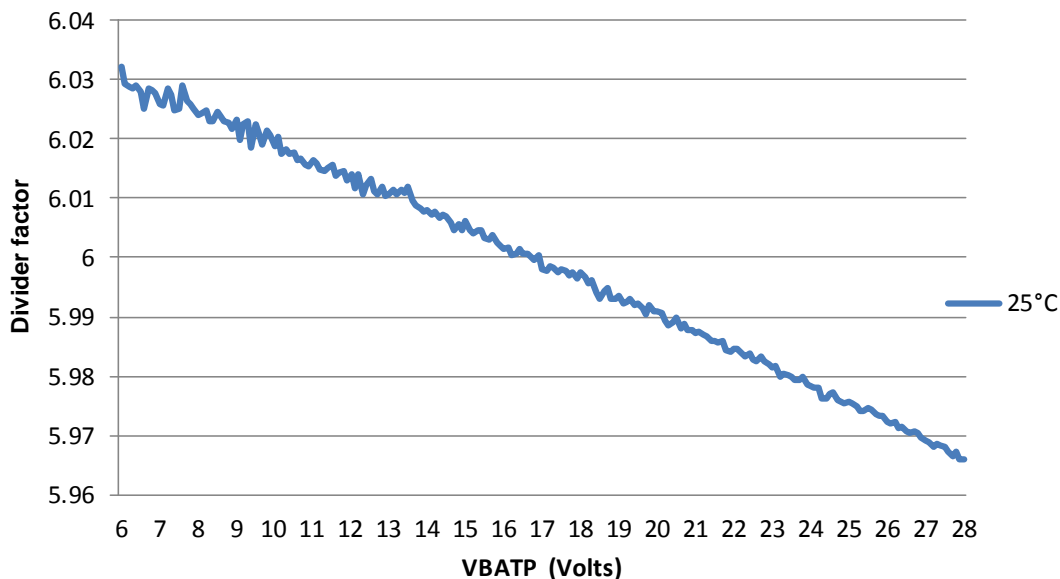

Figure 4. Divide by 6 Coefficient Accuracy
21. Calibration of divider ratio can be done at $V_{BAT} = 12\text{ V}$, $25\text{ }^\circ\text{C}$ to achieve a higher accuracy. See Figure 4 for AMUX offset linearity waveform through the operating voltage range.